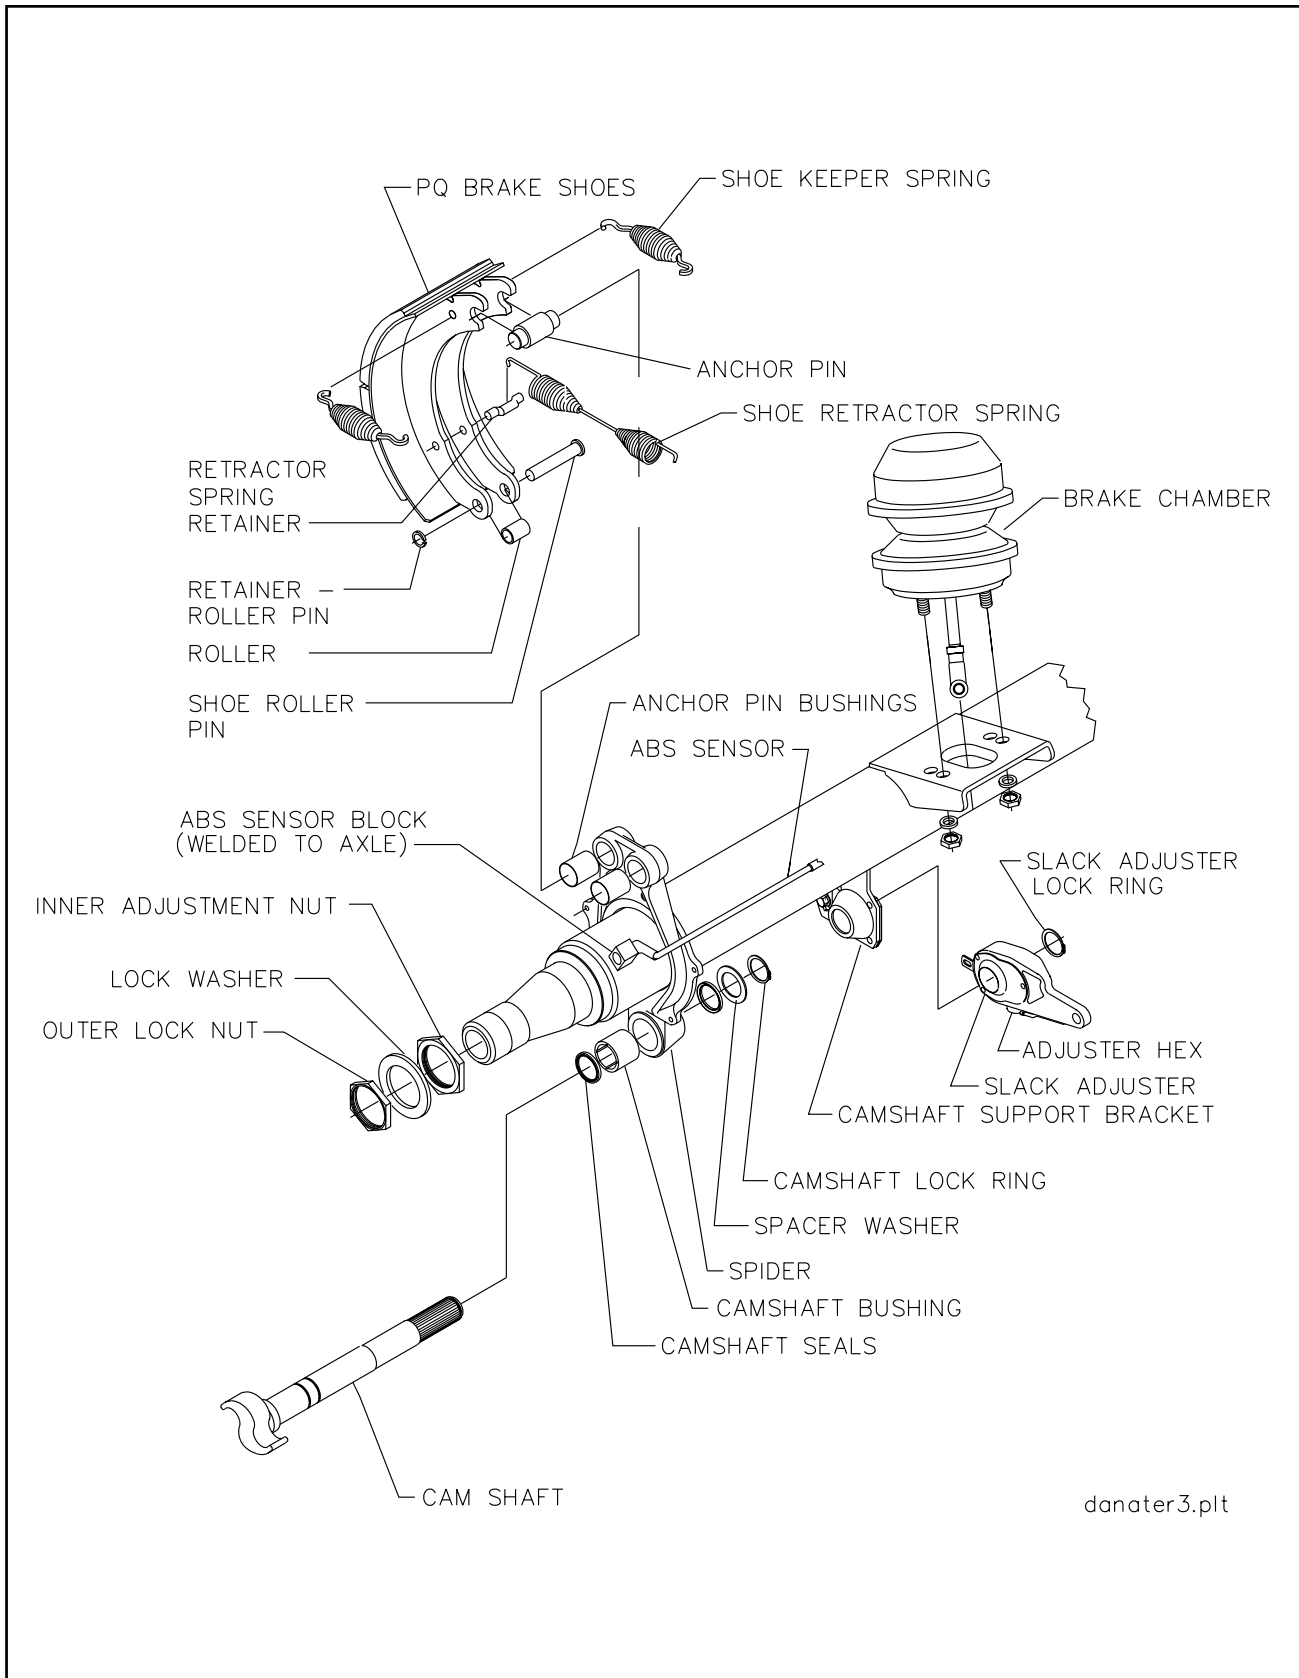

Figure 4-12 Axle and Brake Assembly
2. Remove dust cap from the rear of the spring brake chamber (See Figure 4-12).
b. Disassembly for 12-1/4" X 7-1/2" Brakes (See Figure 4-12)
3. Remove drum assembly (See Figure 4-12).